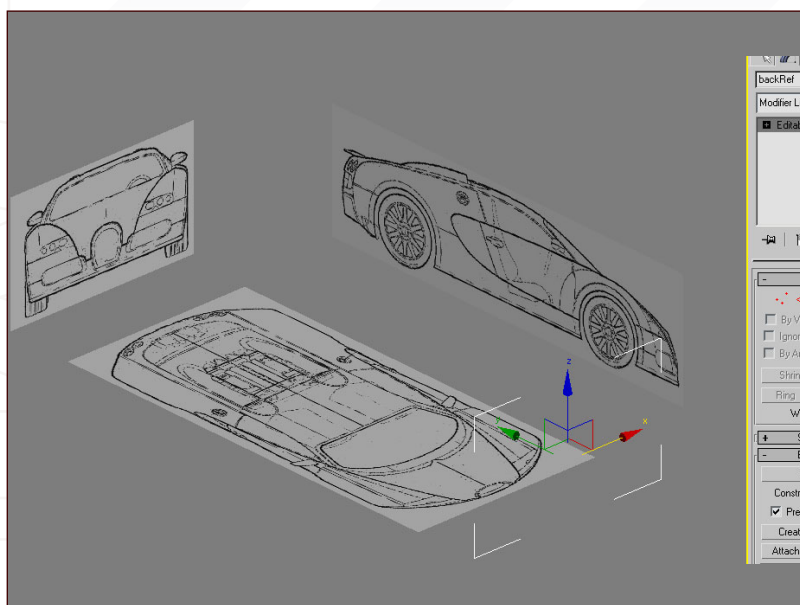

Fig 04
4. Have every polygon detached to a different object, then rotate them and place them in the right positions. When rotating and moving the blueprint objects, you should take advantage of having the top and side views already aligned for you, by rotating the side view blueprint, for example in the Y axis, and not moving it in a way that will change its alignment. By the way, also make sure that the blueprint objects have Backface Cull selected in the object properties (**Fig04**).